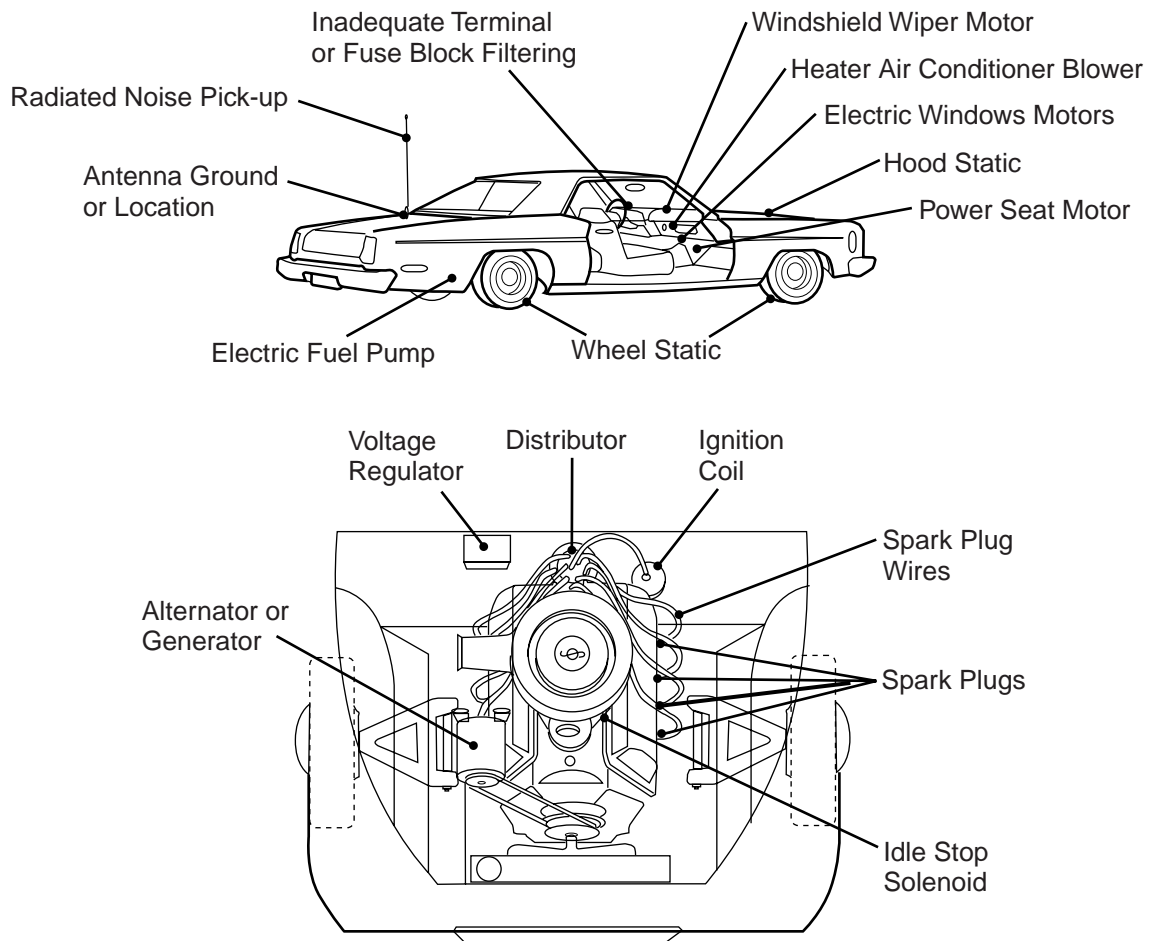

Figure 7-1. Noise Sources
The three major noise sources affecting mobile radio systems are: (1) radiated noise, (2) conducted noise, and (3) induced noise. (See Figure 7-1 for typical vehicular noise sources.)